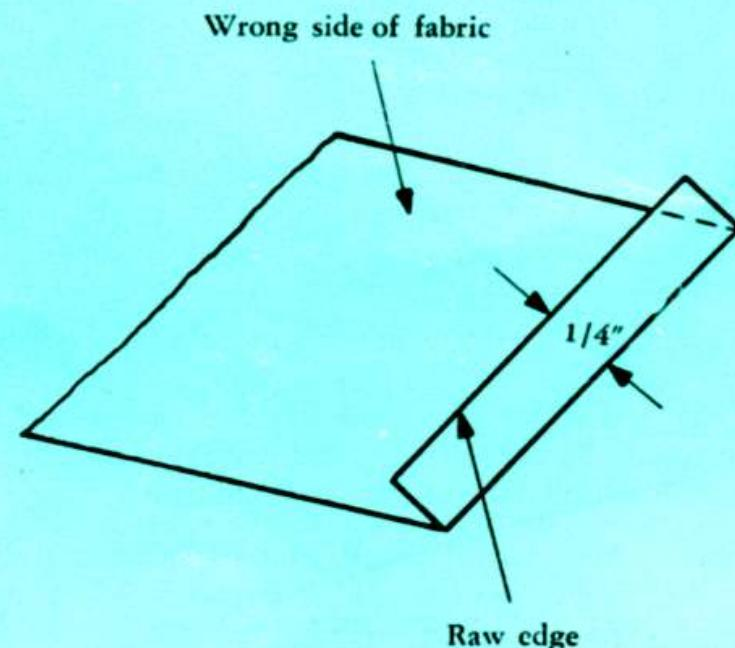

Fig. 26
Illustrations Figs. 26, 27, 28, 29 and 30 show how to fold material properly for blindstitching.
- 1) When using lighter fabrics (linen, cotton, percales, etc.), fold over raw edge of fabric  $1/4"$  toward wrong side of fabric, as indicated in Fig. 26.